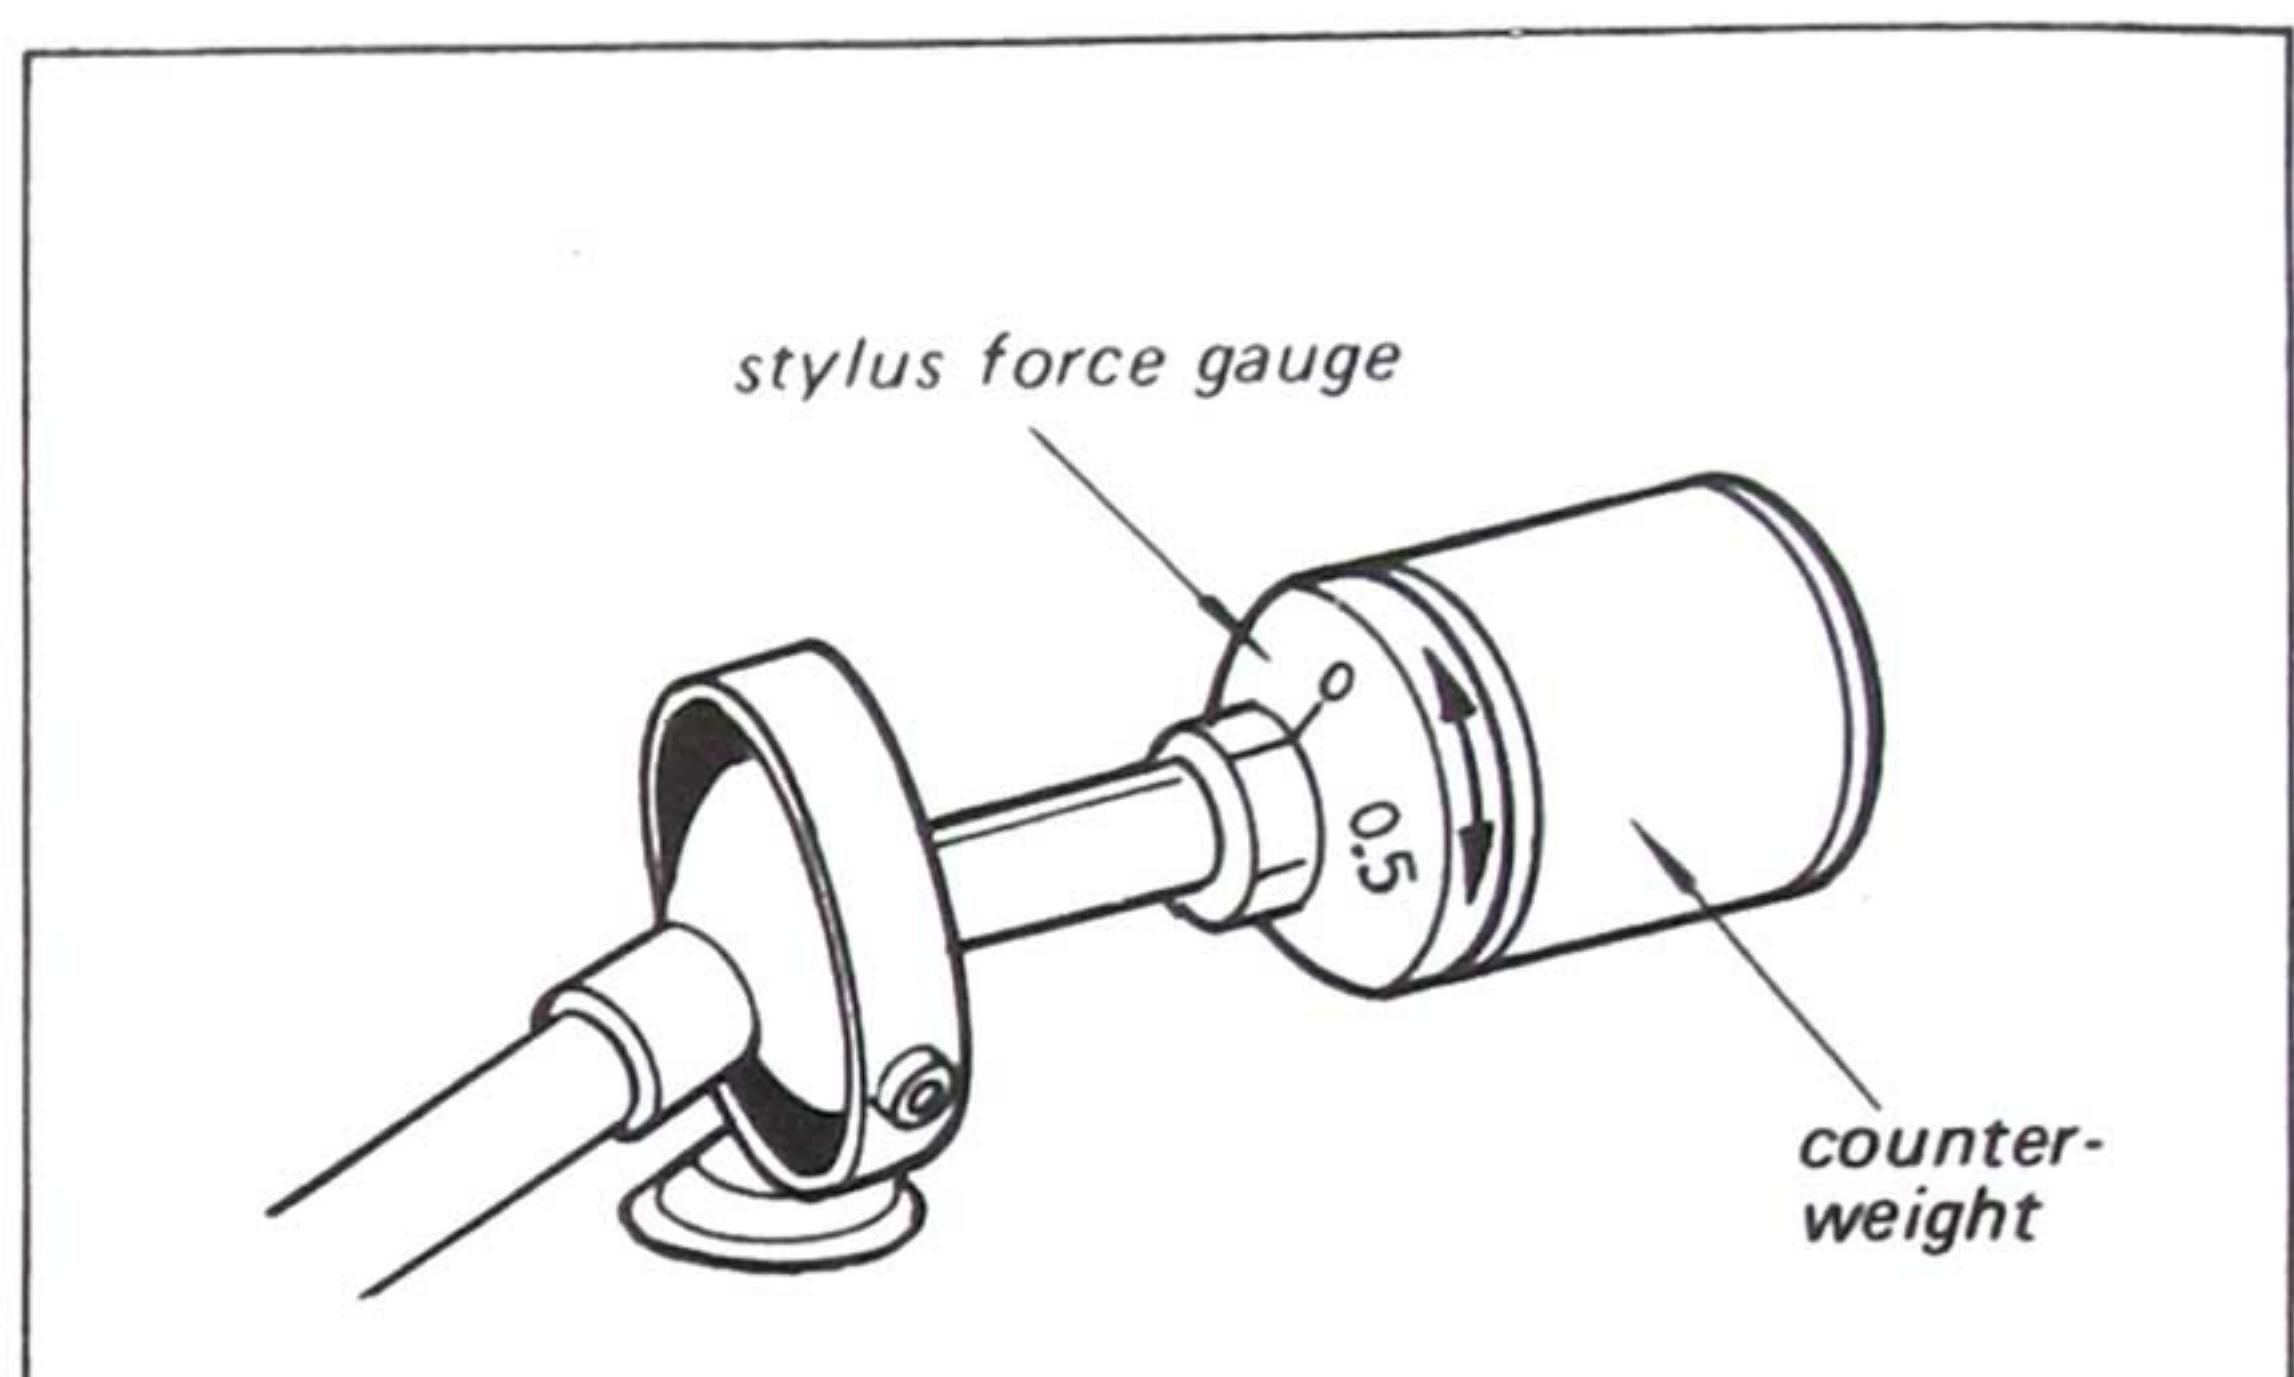

Fig. 3-6. Longitudinal balance adjustment
2. Horizontally balance the tonearm by turning the counter weight at the rear of the tonearm, and set the stylus force gauge ring to "O" while holding the counter weight as shown in Fig. 3-6.
2. Horizontally balance the tonearm by turning the counterweight at the rear of the tonearm, and set the stylus force gauge ring to "O" while holding the counterweight as shown in Fig. 3-6.